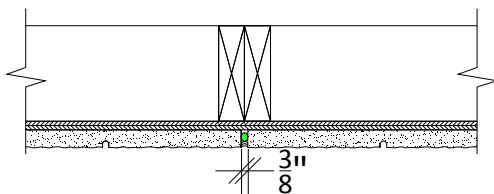

Fig. 5 - Vertical Panel Joint Spacing
1. Continue installation with the intermediate panels filling the space in-between corner panels. Special care should be taken with the planning and the installation of these panels. To provide the best overall look measure the distance between corner panels and decide if the final panel install will provide the look required. Ensure that you have provided the correct spacing between panel edges. See fig. 5